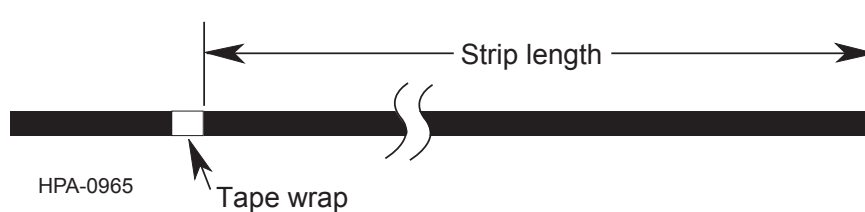

Figure 2
**Step 1:** Determine the proper sheath removal length for the hardware being used. Mark a point at this distance from the end of the cable with a wrap of tape (Figure 2).